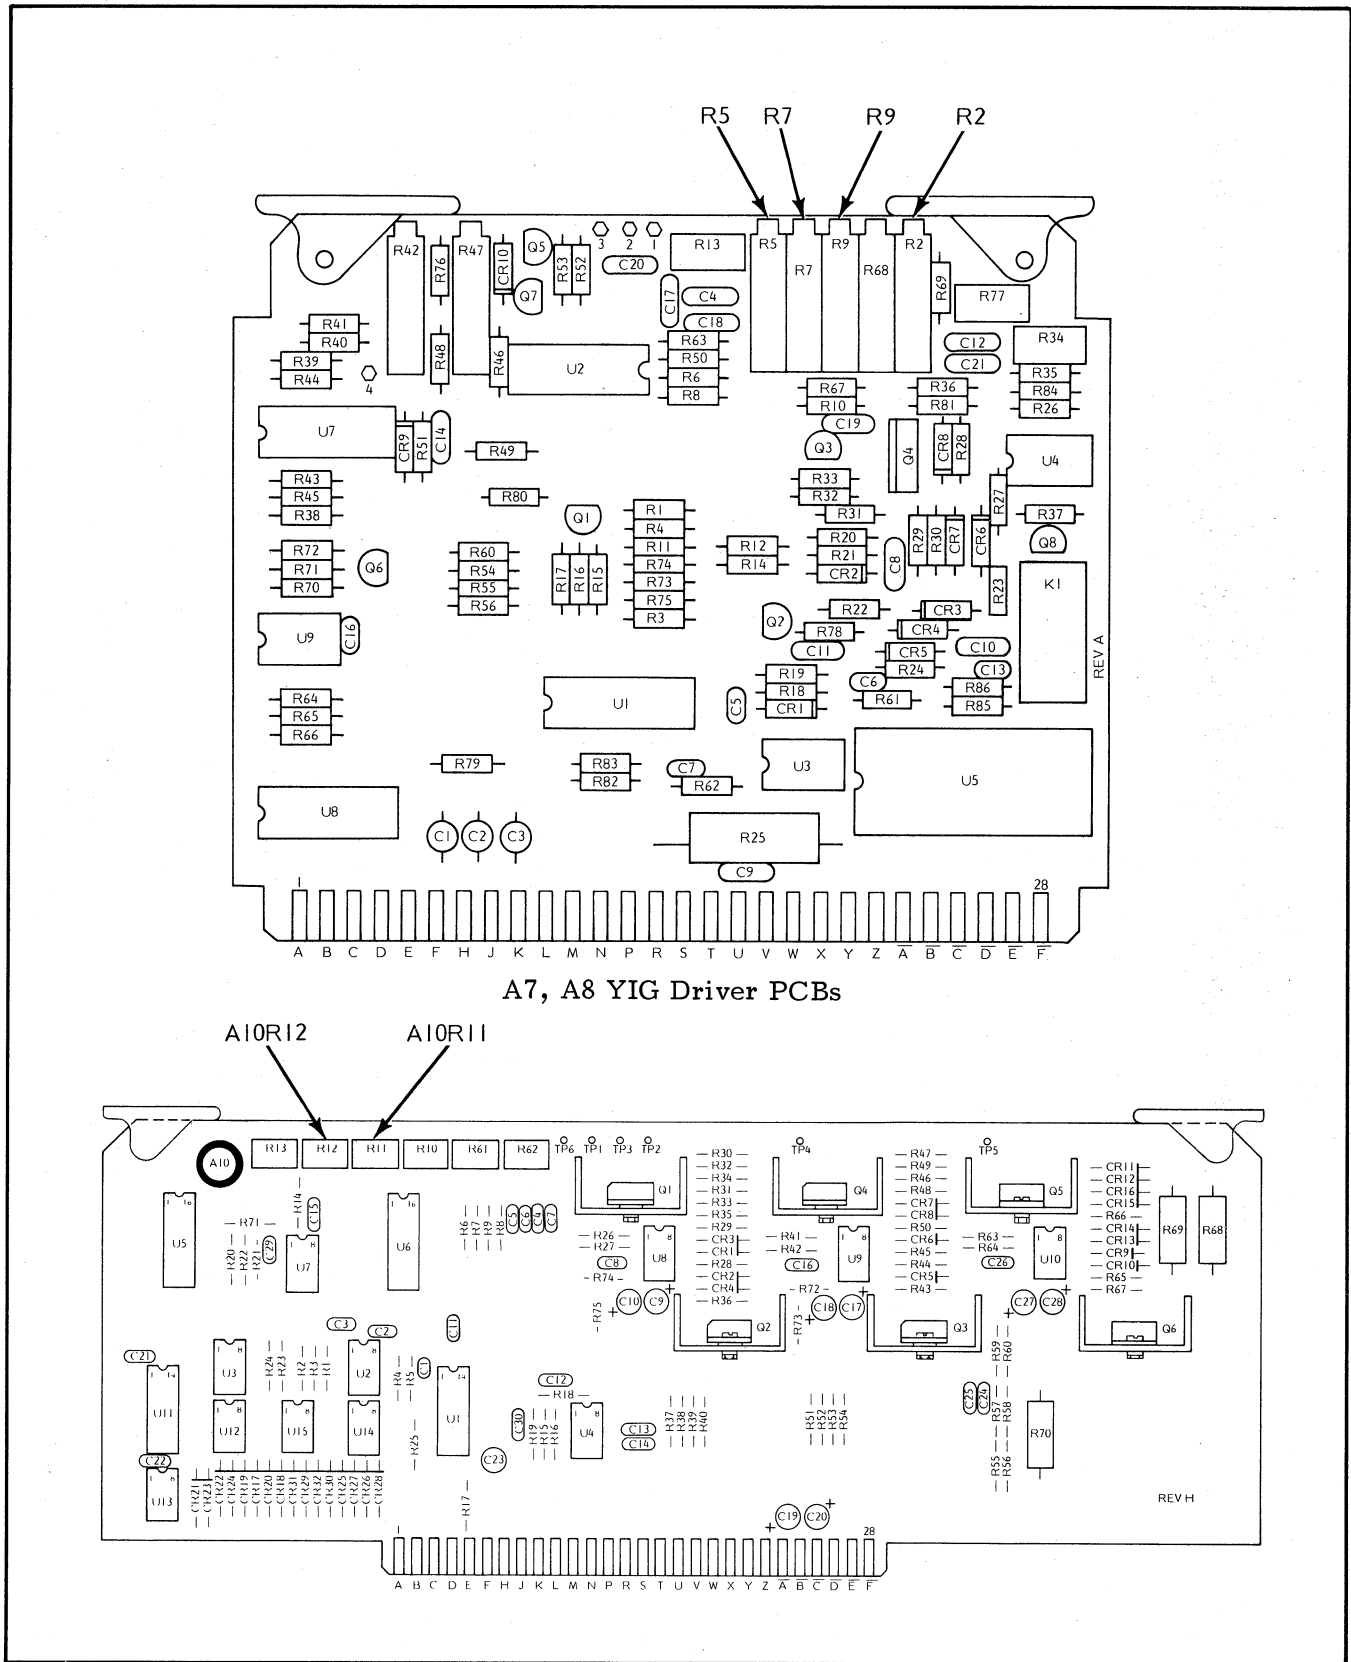

Figure 5-25. 8-12.4 and 12.4-18.6 (or 20) GHz Band (Osc 2 and 3) Frequency Adjustments
umn 2 below, adjust A7R2 (Figure 5-25) for the frequency shown in column 3 below.
6. Using care to prevent the frequency from going below 12.400 GHz, adjust A8R2 (Figure 5-25) for 12.450 GHz ± 1 MHz, as indicated on the counter.
6. Using care to prevent the frequency from going below 18.000 GHz, adjust A8R2 (Figure 5-25) for 18.050 GHz ± 1 MHz, as indicated on the counter.